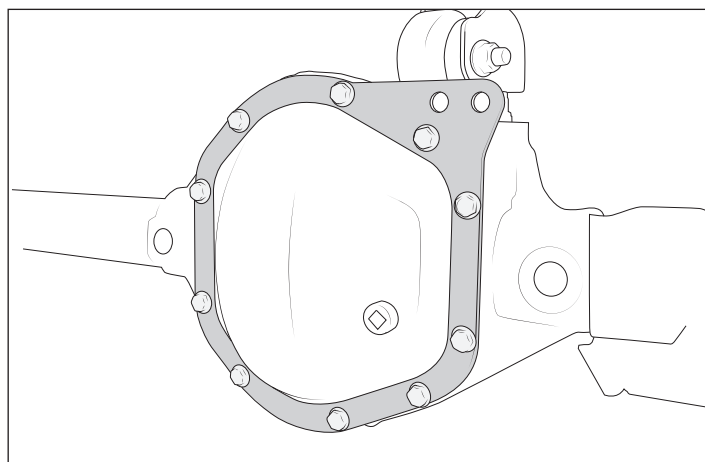

Figure 20
14. Remove the differential cover bolts but DO NOT remove the differential cover. Attach the differential bracket to the differential with the new supplied bolts as shown (Fig. 20). Torque to 18 ft-lbs.